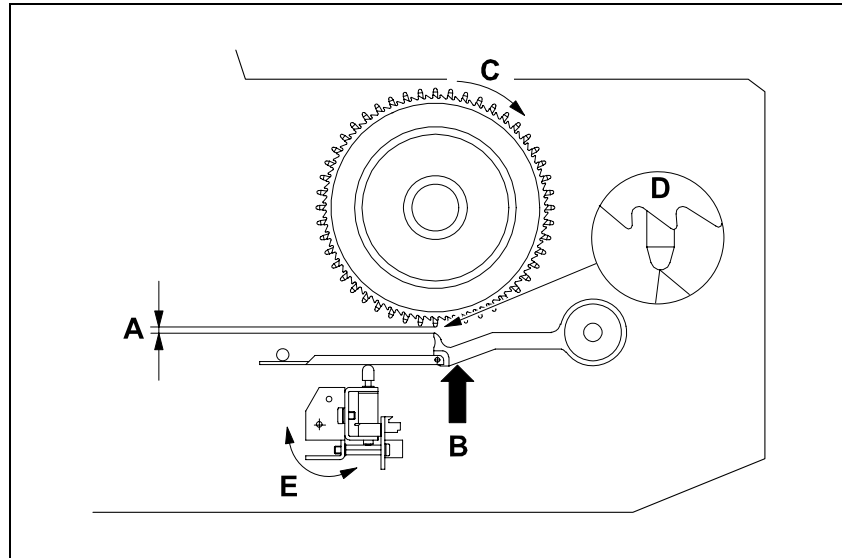

Figure 13-14. Feeder arm gap.
2. Adjust the gap between the feeder wheels and the feeder arm tips ('A' in Figure 13-14) by turning the solenoid bar.